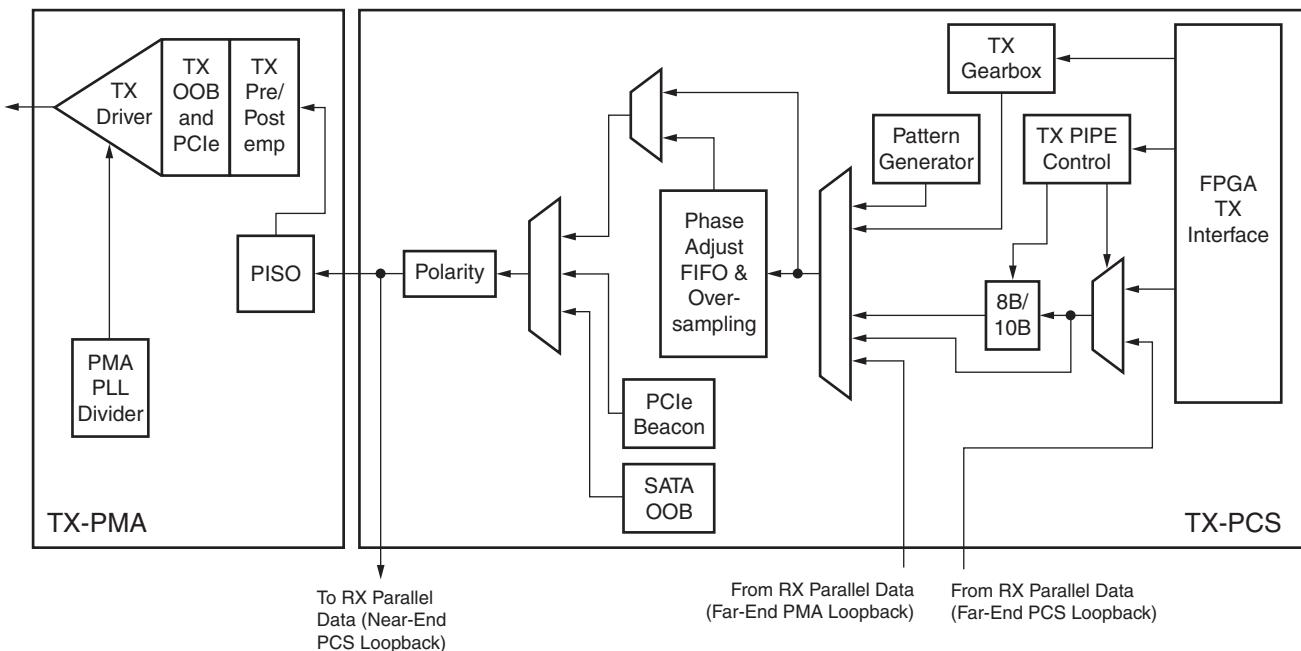

Figure 3-1: GTX Transceiver TX Block Diagram
This chapter shows how to configure and use each of the functional blocks inside the GTX transceiver transmitter (TX). Each GTX transceiver includes an independent transmitter, which consists of a PCS and a PMA. Figure 3-1 shows the functional blocks of the transmitter. Parallel data flows from the FPGA into the FPGA TX interface, through the PCS and PMA, and then out the TX driver as high-speed serial data.